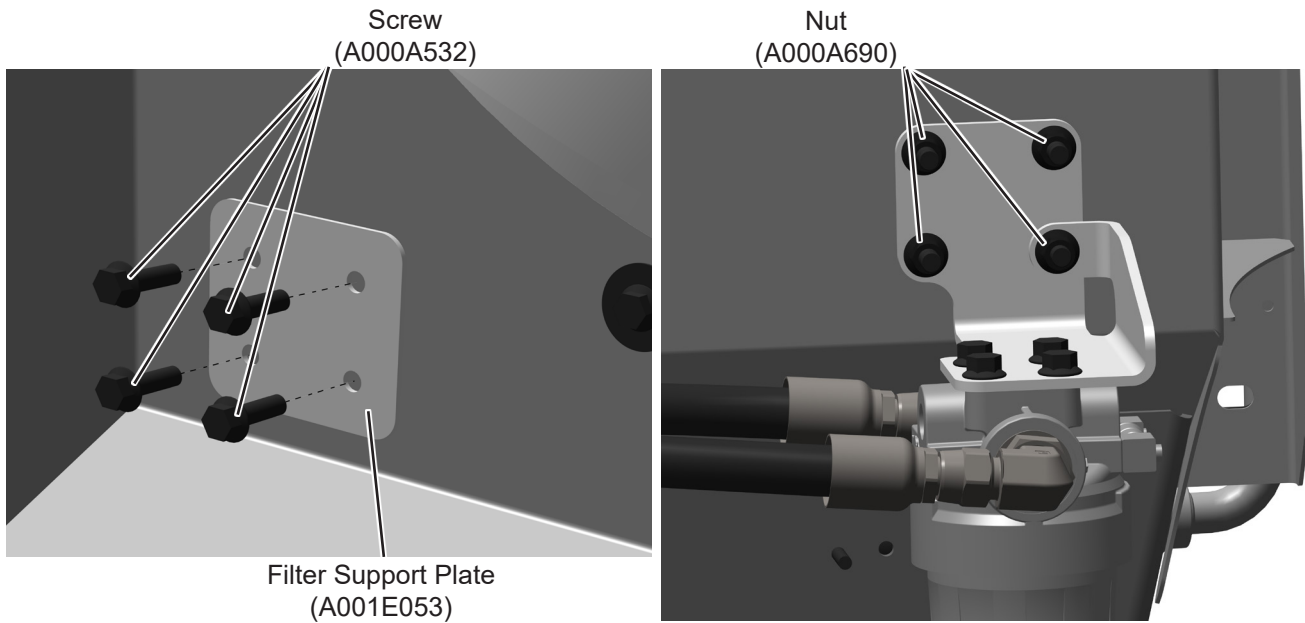

Figure 6
21. Position filter assembly on fan shroud and mark the four mounting bracket holes. See Figure 6.
22. Drill four 3/8 inch filter bracket mounting holes in fan shroud. See Figure 6.
23. Install four 3/8-16 x 1.25 inch screws (A000A532) in filter support plate (A001E053) and install plate from inside of fan shroud. See Figure 6.
24. Secure filter assembly to support plate screws with four lock nuts (A000A690). See Figure 6. Final tighten filter assembly mounting bracket hardware to 35 ft. lbs.